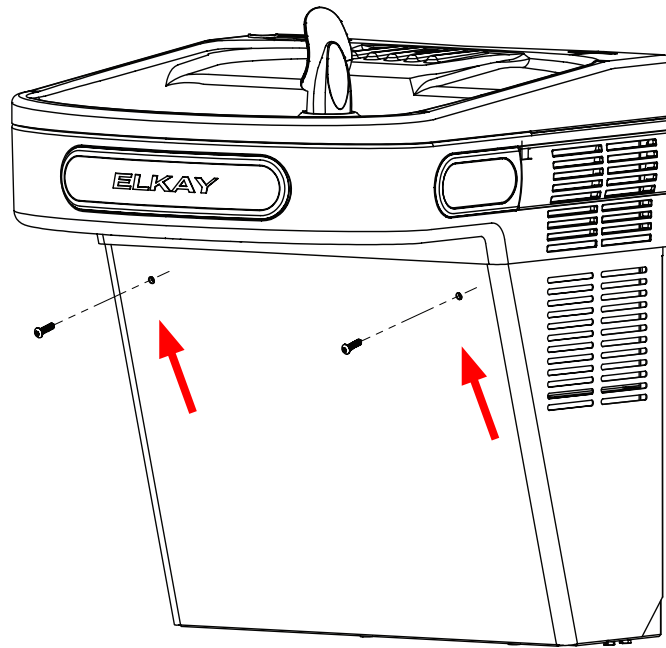

Fig. 12
2. When re-attaching the cooler wrapper, push wrapper up and under the shroud. Make sure wrapper and bushing holes are aligned prior to inserting screw as shown in Fig. 12, do not over tighten. Units are now ready for use.